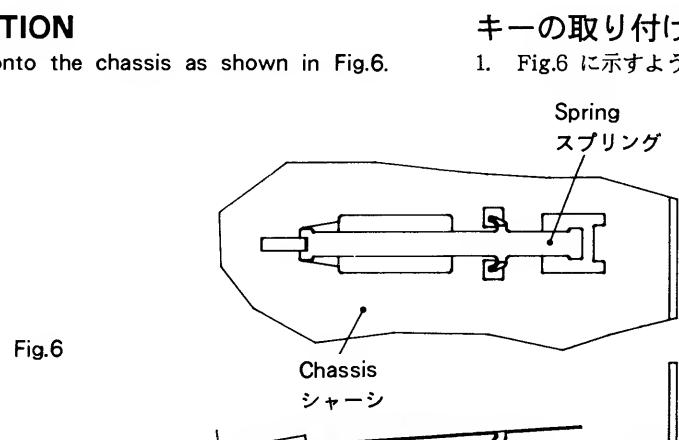

Fig.6
1. Place the spring onto the chassis as shown in Fig.6.